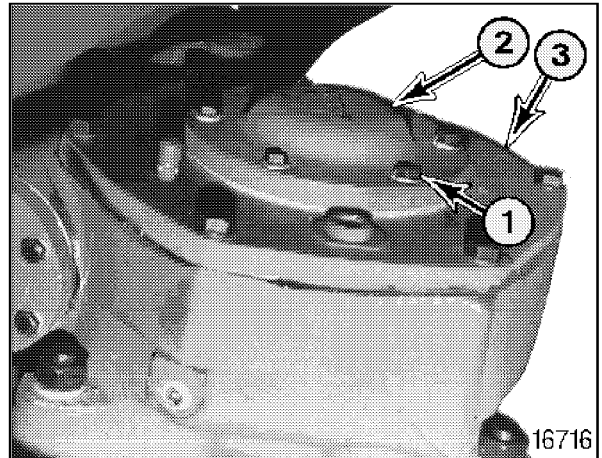

Figure 4
3. Remove six bolts and lock washers (1, Figure 4), bearing retainer (2) and shims from circle reverse gear case cover (3).